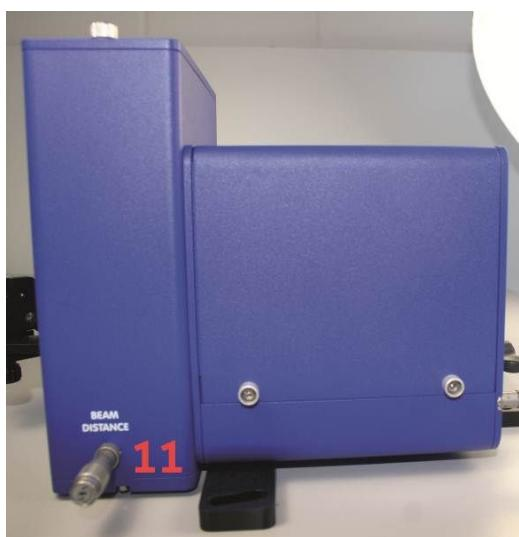

Figure 3.3.: **pulseCheck** Optical Head
9. Check if the "FOCUS" alignment knob at the optical head (see Figure 3.3, item 8) is at center position as given in the test report, and correct if necessary.
10. Check if the "DELAY" screw at the optical head (see Figure 3.3, item 12) is at the "zero" position as given in the test report (this is usually not the micrometer position "0.00"), and correct if necessary.